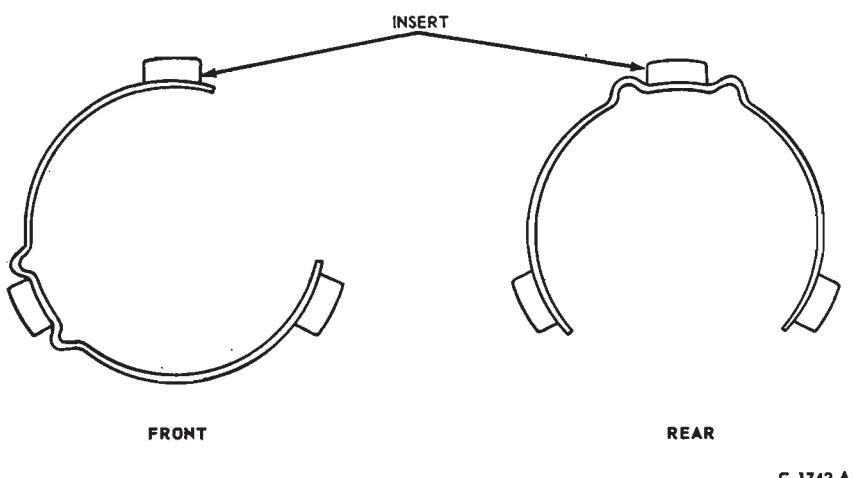

FIG. 20—First and Reverse Speed Synchronizer Insert Spring Installation
3. Install the rear insert spring in the groove of the first and reverse synchronizer hub. Make sure that the spring covers all insert grooves. Start the hub in the sleeve making sure that the alignment marks are properly indexed. Position the three inserts in the hub making sure that the small end is over the spring and that the shoulder is on the inside of the hub. Slide the sleeve and reverse gear onto the hub until the detent is engaged. Install the front insert spring in the hub to hold the inserts against the hub. Be sure the spring humps of the rear spring cover different inserts than the front spring humps (Fig. 20).